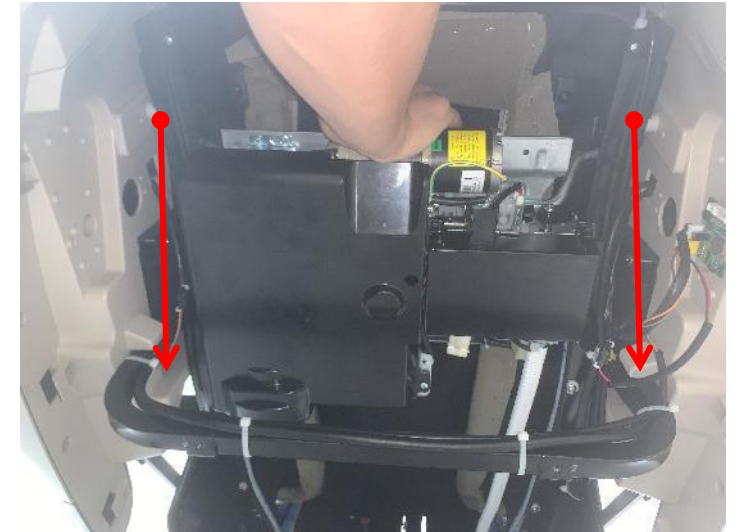

Figure 3
3. Push the manipulator down (Figure 3)